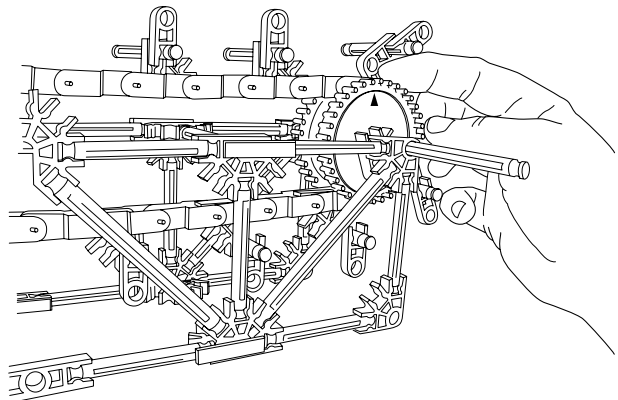

Fig.1
3. Turn the **belt gear** using your fingers until the gear completes one full turn. (See Fig. 1)